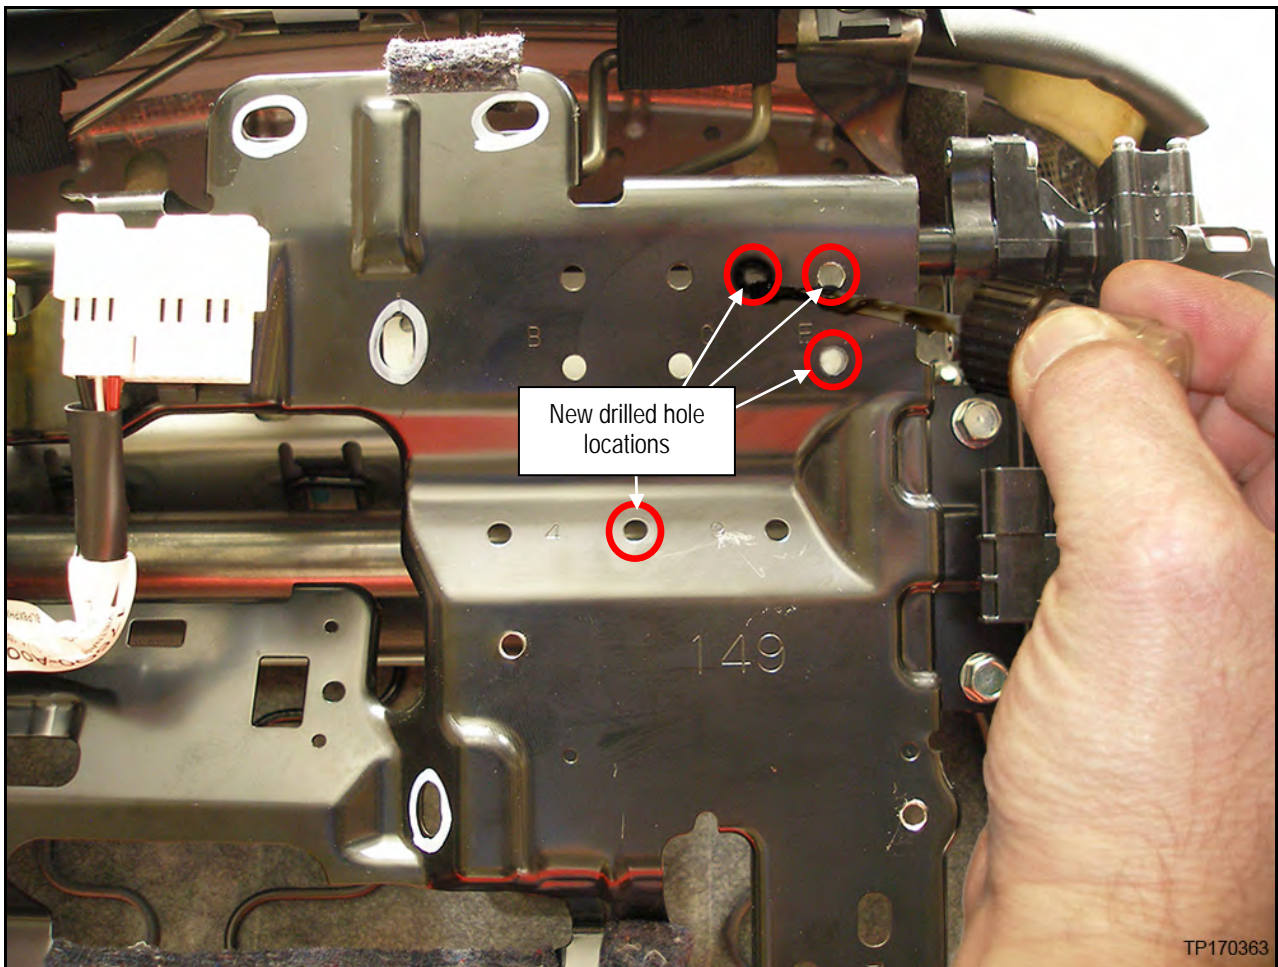

Figure 8
- Refer to Figure 8 to verify center punch marks are in correct location where holes are to be drilled.